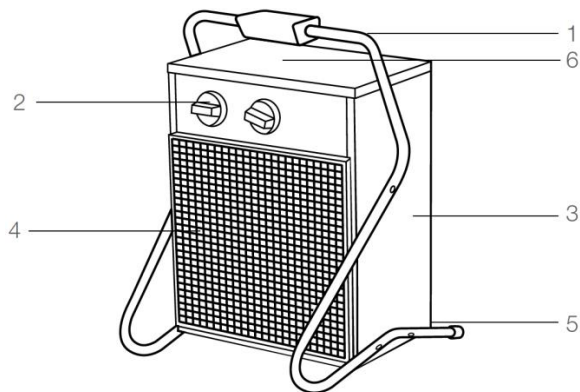

Fig. 1*
To resume heating, wait 5-10 minutes for the appliance to cool down and press the RESET button (6) on the upper part of the housing (see Figure 1).